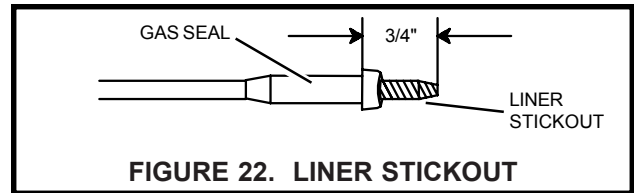

FIGURE 22. LINER STICKOUT
3. Adjust the liner stickout length to 3/4" as shown in fig. 22.